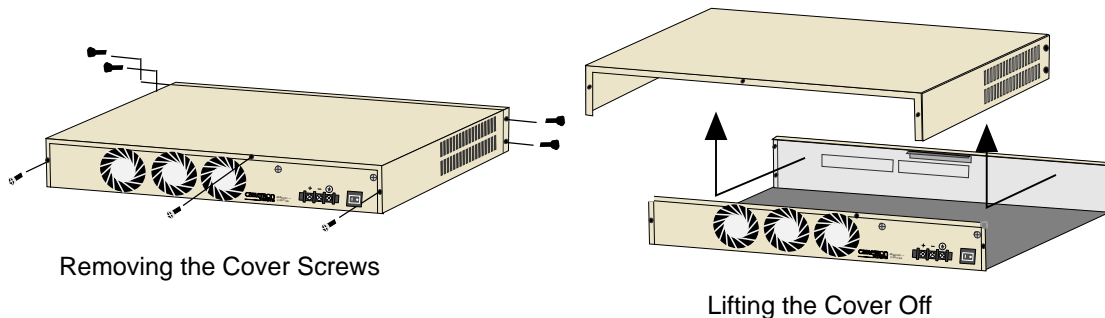

Figure 12 Removing the Chassis Cover
2. Use a Phillips screwdriver to remove the seven screws that attach the chassis cover to the unit. Place the screws aside. (See **Figure 12**).